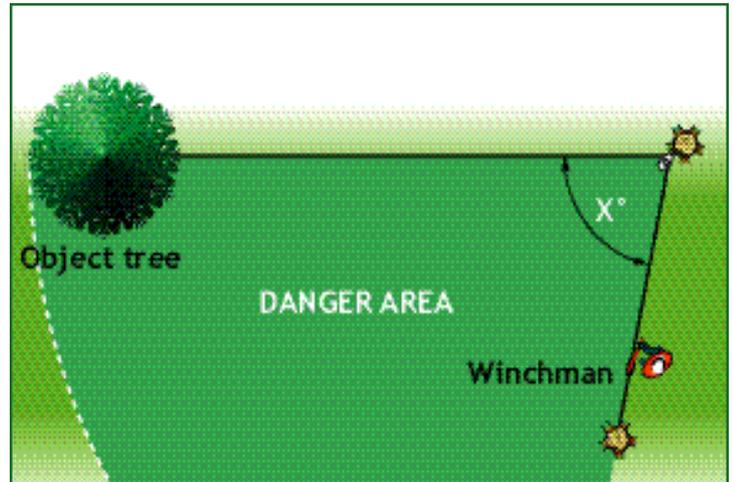

Figure 2 Offset winching and danger zone
- 20 Adiverted pull may be used in confined sites to allow the operator to work in a safe position. Avoid walking or working in the triangle created by the offset winch cable (see Figure 2).
- 22 Be aware that when a snatch block is used, the loading on the block and anchor point can be doubled. The more acute the angle created, the greater the increase in loading (see Figure 2 angle  $X^\circ$ ). The pulley block, strop and anchor point must therefore be up-rated accordingly.